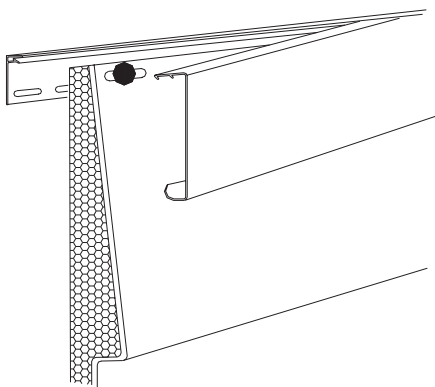

Figure 9.
- **Back Plate and Finish Board/Crown Molding.** This is the recommended installation for finishing a side wall. This will provide a secure and attractive installation. First, install back plate at the top of the wall nailing loosely approximately every 8" to 10". Measure the top course of siding leaving at least $\frac{1}{4}$ " to the back plate. Using a nail slot punch, punch slots every 16". Make sure the slots are approximately 1-3/8" in length (You may need to double slot punch them). Install the panel. Snap the finish board (or Crown Molding) into the back plate Fig. 9). To seam the finish board, cut 1-1/4" off the snap leg of the overlapping piece. Overlap 1".